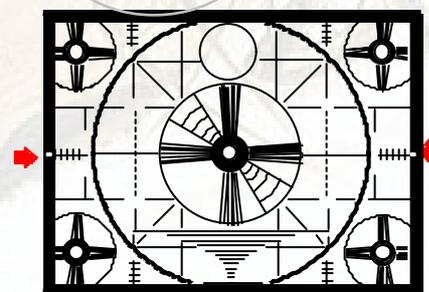

Fig.2-1 NTSC monoscope
2. Use the [VOLUME +/-] key of the jig remote control and adjust so that both right and left horizontal graduations are equal. (Fig. 2-1)